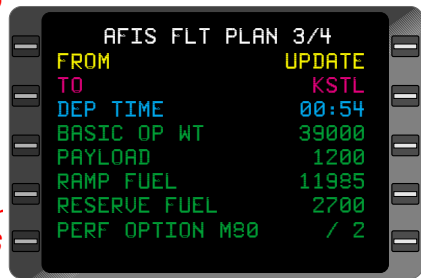

Figure 7-50
*NOTE: If there has been an update to the flight plan: **FROM** identifier (origin airport) changes to **UPDATE**; **DEP TIME** changes to **UPDATE TIME**; **RAMP FUEL** changes to **UPDATE FUEL**; **FPL RES FUEL** changes to **RESERVE FUEL**; and the values in the respective fields change to reflect the updated information. (Figure 7-50)*